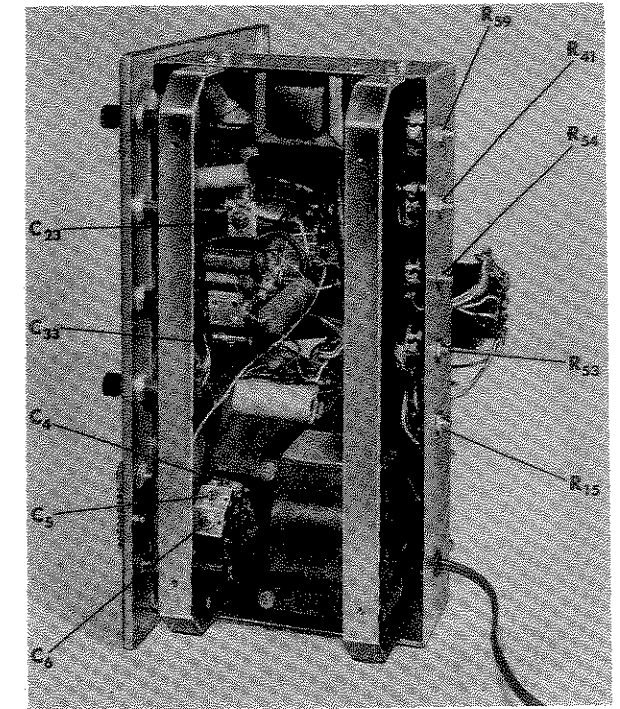

Figure 18B. Bottom View of WO-57A Chassis
3. Turn the V CAL control to its extreme clockwise position. If the trace has moved from the center of the screen, recenter by adjusting the vertical balance control (R15) located on the rear apron of the instrument chassis (Figure 18B).